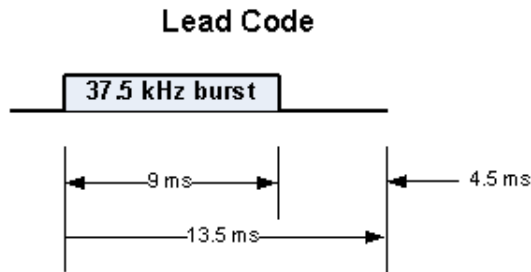

Figure 12. NEC Transmission Lead Code
- Lead Code – provides the equivalent of a preamble that consists of a 9 ms frequency burst of the base 37.5 kHz carrier followed by a space of 4.5 ms. The frequency burst is used as a start condition and can be used for receiver AGC adjust if required. See Figure 12.